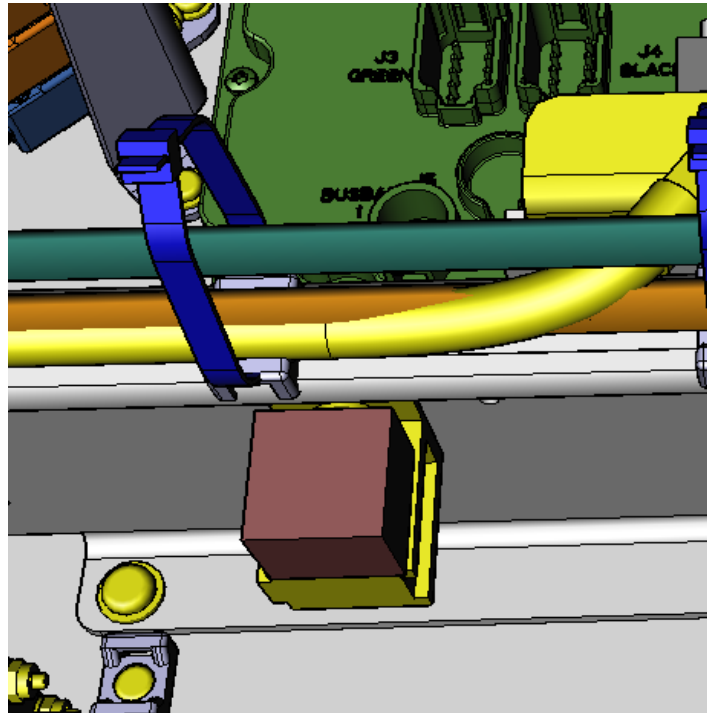
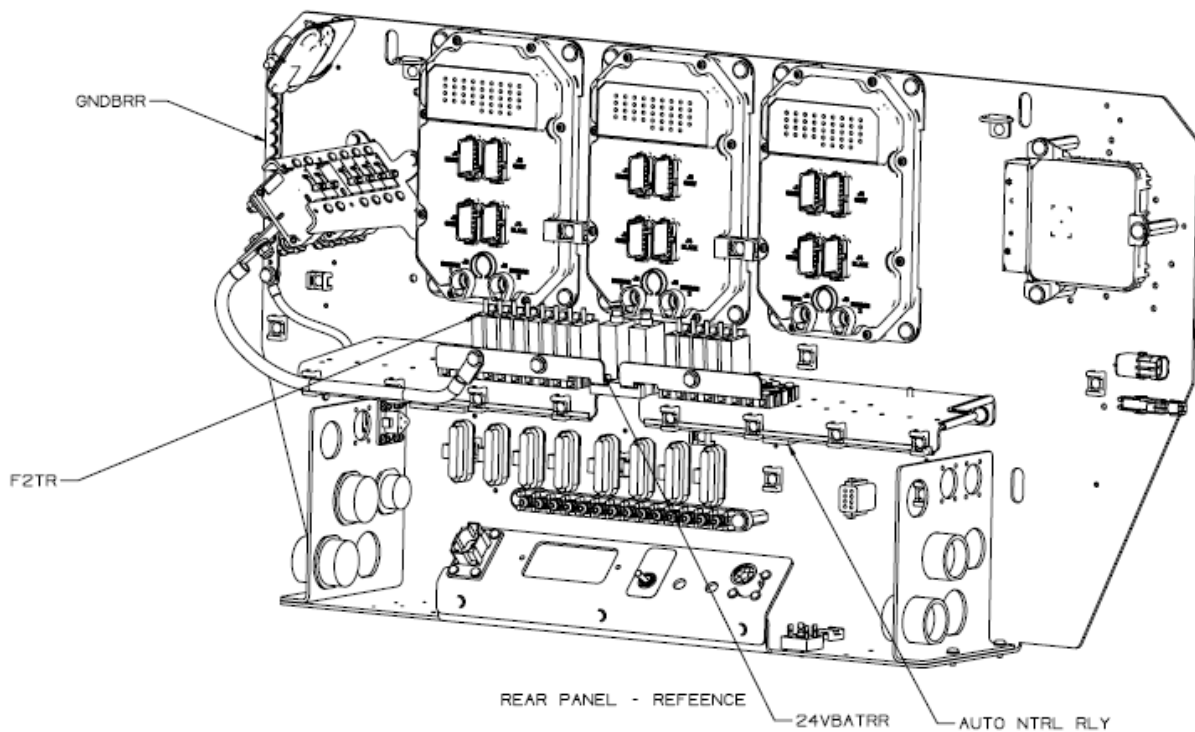
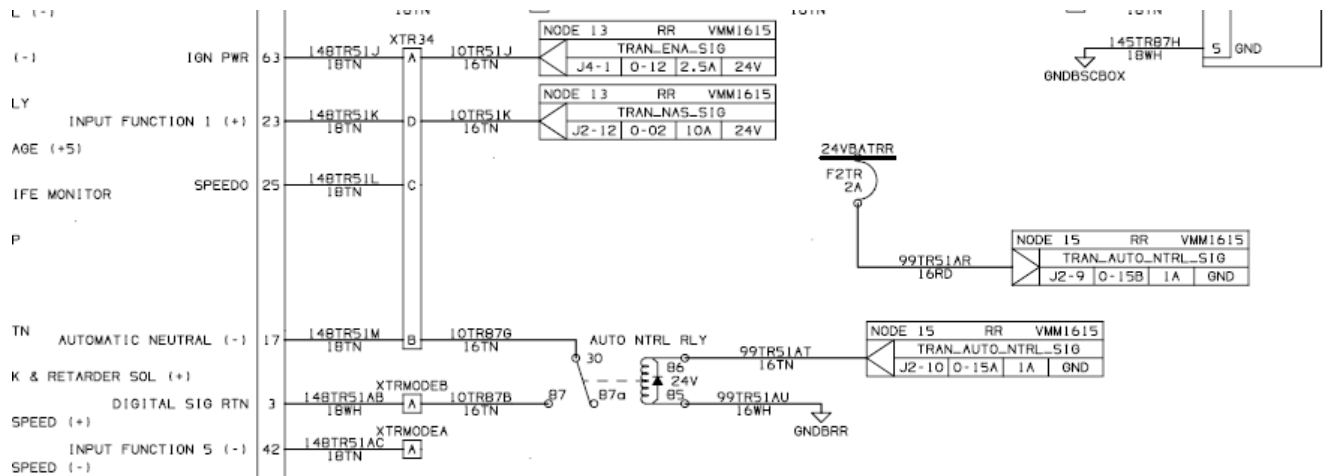

Figure 3: Relay Installation
Figure 5: Connection points in the rear panel
Figure 6a: Schematic SR-2115/2116
6. To install the AUTO NTRL RLY begin by installing the BASE-RELAY SOCKET (P/N: 001325) on the breaker panel as shown in Figure 3 and Figure 5. Mount the base using SCREW MACHINE NO 10 PN HD (P/N: 14S00006) and WASHER FLAT SS 10 (P/N: 50W00000). Then install the RELAY 24V SPDT (P/N: 106614) on to the base.
8. Gain access to supplied HRNS-JMPR AUTO NTRL RLY (P/N: 744369). Locate AUTO NTRL RLY, terminal strip GNDBRR, breaker F2TR and connector NODE 15-J2. Refer to the diagram in Figure 5 and schematic in Figure 6a (SR-2215/2216) and 6b (SR-2230).